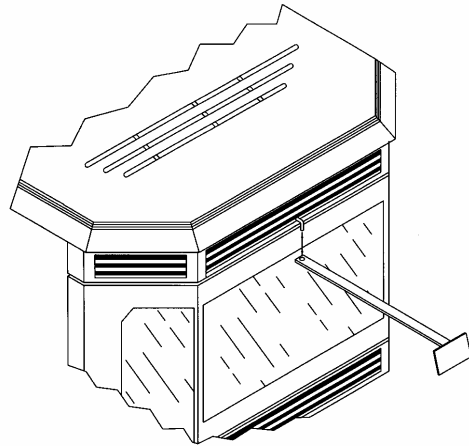

FIGURE 14
- Heat Exchange Tubes** – Your Breckwell stove is designed with a built-in heat exchange tube cleaner. This should be used every two or three days to remove accumulated ash on the tubes, which reduces the efficiency of your unit. Insert the handle end (with hole) of the cleaning tool onto the cleaning rod (refer to figure 14). The cleaner rod is located in the grill above the stove door. Move the cleaner rod back and forth several times to clean the heat exchanger tubes. When finished be sure to leave tube cleaner at the rear of the stove.